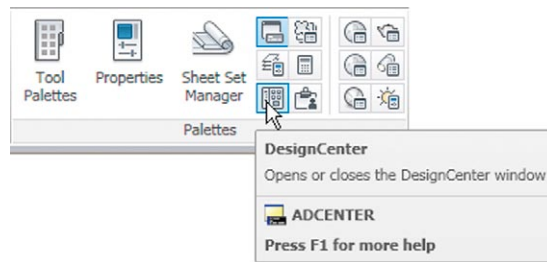
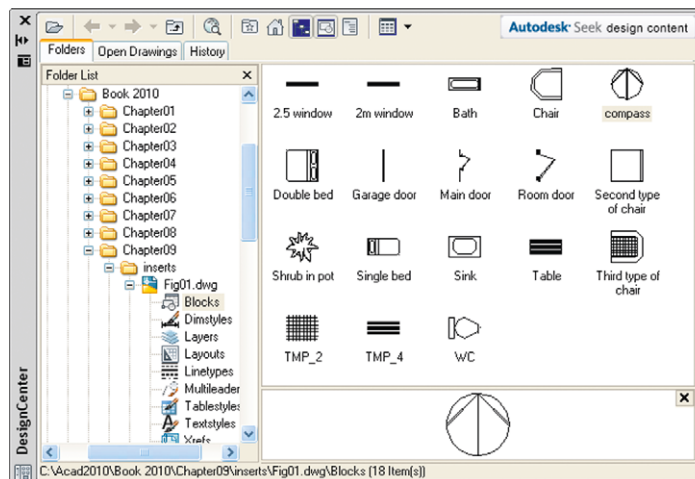

Fig. 9.9 Selecting DesignCenter from the View/Palettes panel
Fig. 9.10 The DesignCenter with the compass block dragged on screen
2. Left-click **DesignCenter** in the **View/Palettes** panel (Fig. 9.9) or press the **Ctrl+2** keys. The **DesignCenter** palette appears on screen (Fig. 9.10).